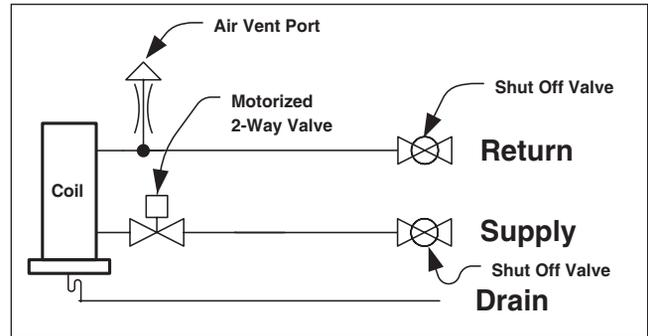

Figure 125. 2-Pipe with 2-Way Valve and 2 Shut off Valves
**Figure 125** shows a basic two-pipe system package. Supply water is piped to the bottom of the coil to ensure that any air bubbles forming in the supply water will be transmitted to the upper level where they can be discharged from the system through the optional air vent on the return pipe immediately outside the coil.